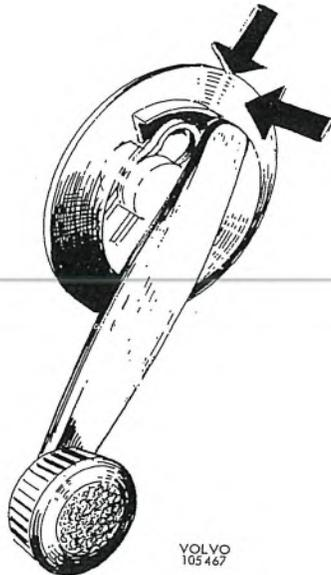

Fig. 8-9. Removing window winder
1. Remove the winder handle by pressing in the trim washer against the upholstery and pushing it towards the winding handle (Fig. 8-9). This releases the spring clip and the winding handle can then be taken off.